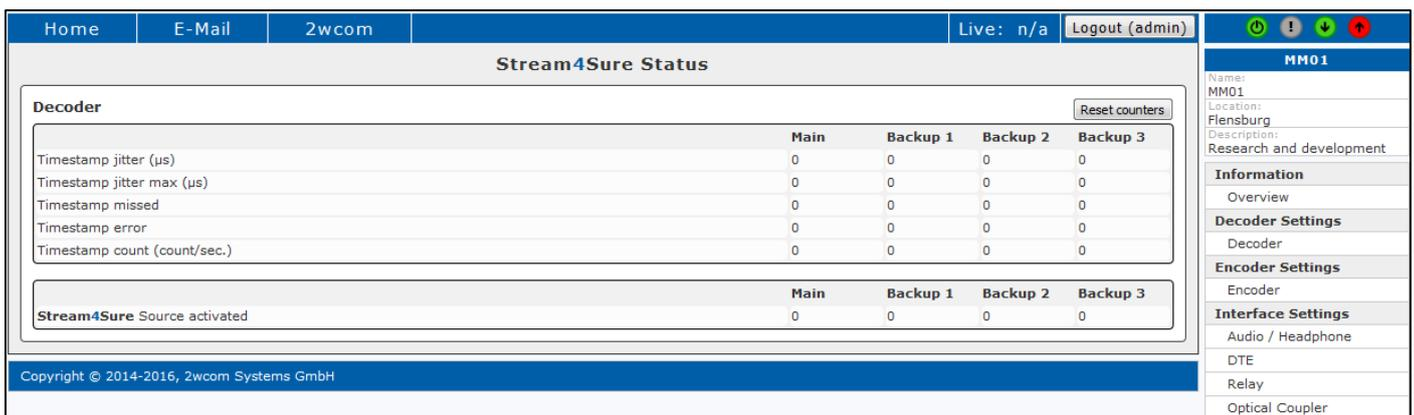

Figure 30: Stream4Sure Status
- FEC C – FEC column (L) port offset
- FEC R - FEC row (D) port offset
5. Under **Status→Stream4Sure Status** you can view the status of the decoder outputs and the sources (see Figure 30). The counters calculate the frequency of the shown parameters.